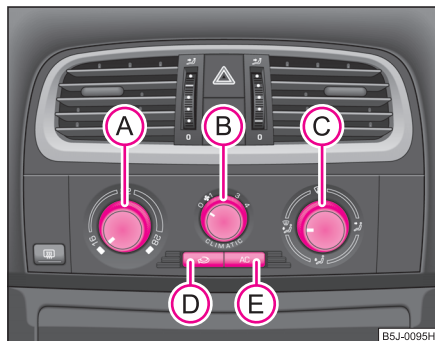
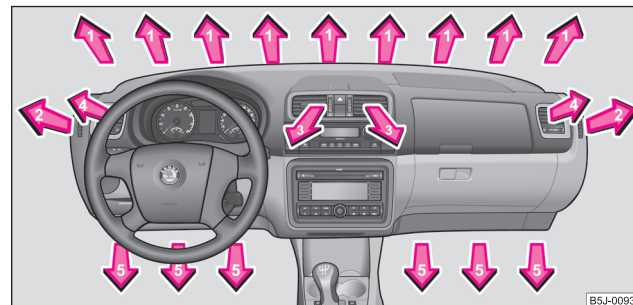

Fig. 83 Climatic Controls
Fig. 84 Air outlet vents
The air conditioning system operates when switch  ⇒ page 95, fig. 83  is pressed and the following conditions are met:
- Turn the control dial (A) ⇒ fig. 83 to the right in order to increase the temperature.
- Turn the control dial (A) to the left in order to increase the temperature.
- Put the control dial (A) ⇒ page 95, fig. 83 to the temperature selected as usual by you (we recommend 22 °C)
- Blower switch (B) in position 3 or 4
- Turn the air distribution control (C) into the position
- Open air outlet vents 4 ⇒ page 97, fig. 84 and point towards the side window.
- Blower switch (B) in position 2
- Turn the air distribution control (C) into the position between and
- Switch on the cooling system by pressing button (AC).
- Press switch  ⇒ page 95, fig. 83 the switch symbol  lights up.
The recirculated air mode is switched off automatically if the air distribution control  is in position  ⇒ page 95, fig. 83. You can also switch recirculated air mode on again from this setting by repeatedly pressing button .
You can set the air supply to the individual vents with the air distribution control  ⇒ page 95, fig. 83. Air outlet vents **3** and **4** can also be opened or closed individually:
Unwarmed or cooled air will flow out of the air outlet vents according to the setting of control dial  ⇒ page 95, fig. 83 and the atmospheric conditions. ■